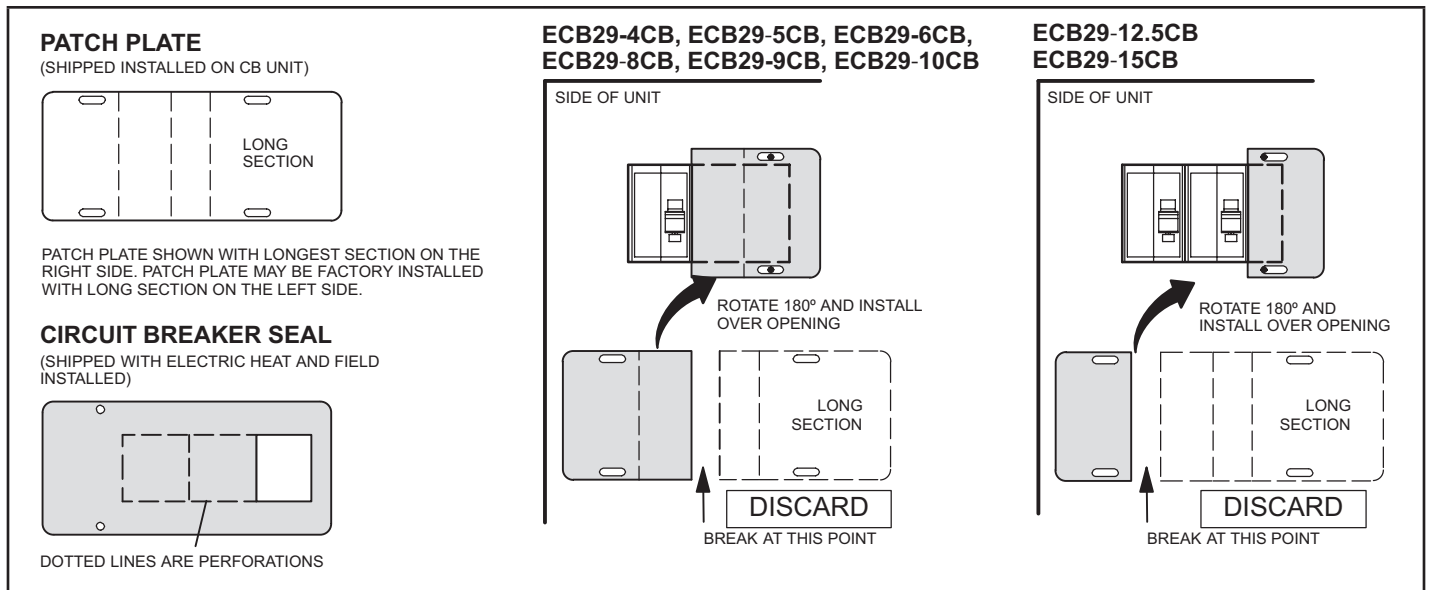

FIGURE 5. Circuit Breaker Heater and Patch Plate Configuration (Select Cases in Air Handlers with Small Cabinets)
- 6 - Break the patch plate for the specific size of electric heat section that you are installing. Discard the unused piece of patch plate (see figures 5 and 6).